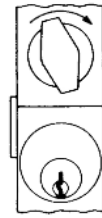

Figure 4-3
**D-9** Turn the thumb turn clockwise to the stop position, assuring the latch is retracted (**See Figure 4-3**). Release thumb turn. You should not be able to turn the thumb turn unless you have depressed the buttons of your newly entered combination. The new combination is now programmed in the lock.